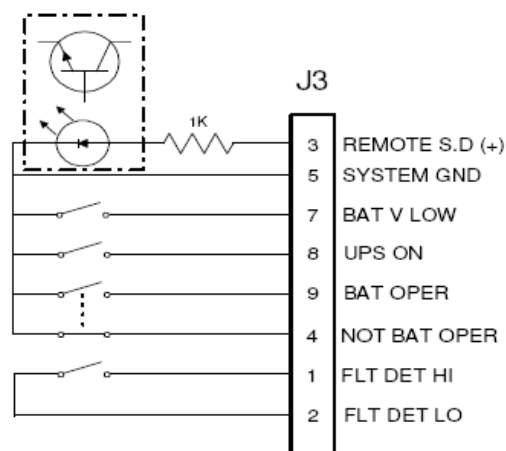

Figure 9 – Dry Contacts
Dry Contacts Interface is available through connector J3 (32), a D-Type 9P connector located on the back panel. This interface allows control and monitoring of the UPS by a server that does not have Ethernet or serial interface provision. Figure 9 below shows the dry contacts interface circuits. The pin assignment of J3 is shown on the next page.
Select the operation mode (UPS or By-Pass) by toggling the Common between Pin 6 and 7. (See Figure 9 below).